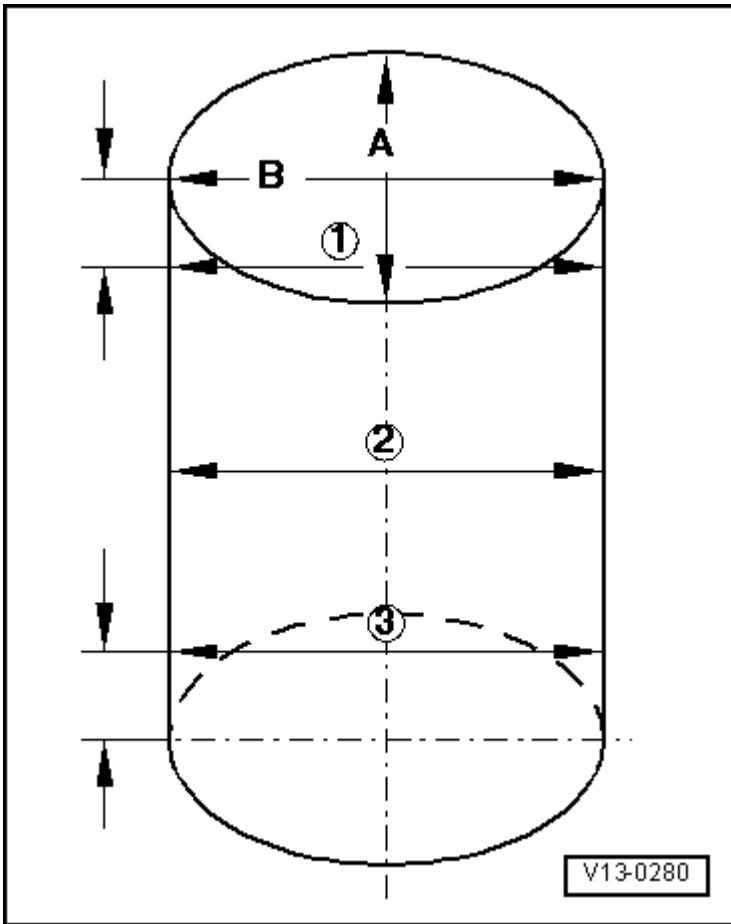

Fig. 26: Checking Cylinder Bores
- Checking cylinder bore, refer to **Fig. 26**.